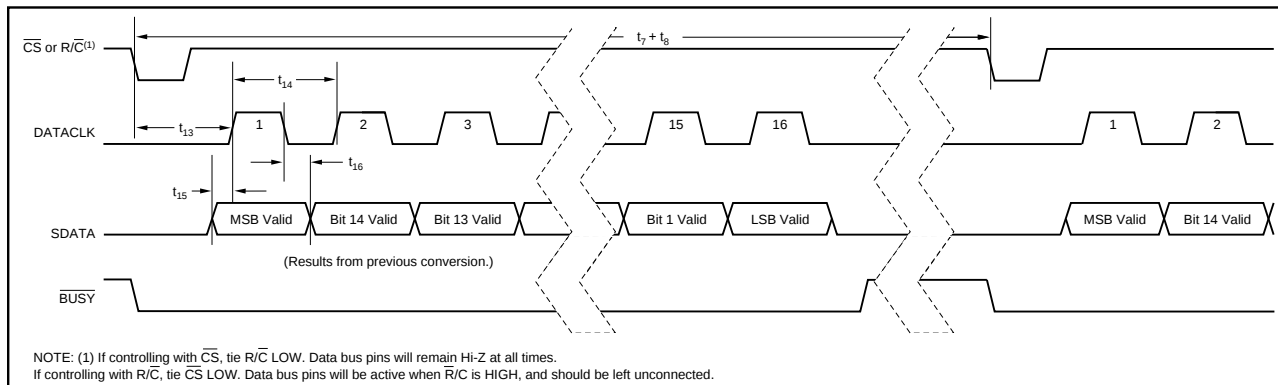

FIGURE 4. Serial Data Timing Using Internal Data Clock (TAG tied LOW).
NOTE: (1) See Figures 4, 5, and 6 for constraints on data valid from conversion "n-1".
To use the internal data clock, tie  $EXT/\overline{INT}$  (pin 8) LOW. The combination of  $R/\overline{C}$  (pin 22) and  $\overline{CS}$  (pin 23) LOW will initiate conversion 'n' and activate the internal data clock (typically 900kHz clock rate). The ADS7807 will output 16 bits of valid data, MSB first, from conversion 'n-1' on SDATA (pin 19), synchronized to 16 clock pulses output on DATACLK (pin 18). The data will be valid on both the rising and falling edges of the internal data clock. The rising edge of  $\overline{BUSY}$  (pin 24) can be used to latch the data. After the 16th clock pulse, DATACLK will remain LOW until the next conversion is initiated, while SDATA will go to whatever logic level was input on TAG (pin 20) during the first clock pulse. Refer to Table VI and Figure 4.